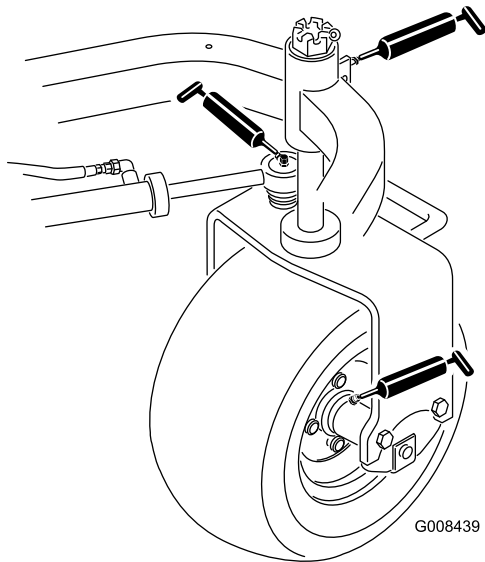

Figure 26
- Rear wheel hub (1) (Figure 26)
- Castor bearing (1) (Figure 26)
- Steering cylinder (2) (Figure 26)